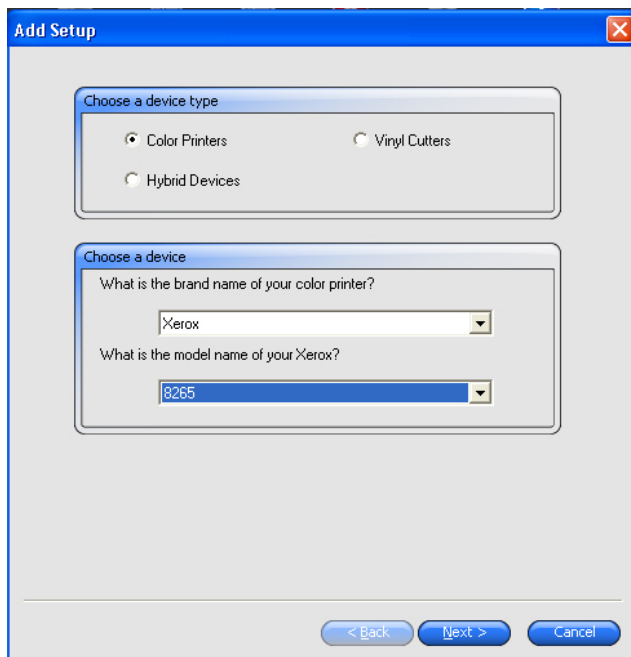

Figure 1. Add Setup Dialog Box
- c. Under “*Choose a device*” > “*What is the model name of your Xerox?*” select the model of your printer. Figure 1 shows, a Xerox 8265™.